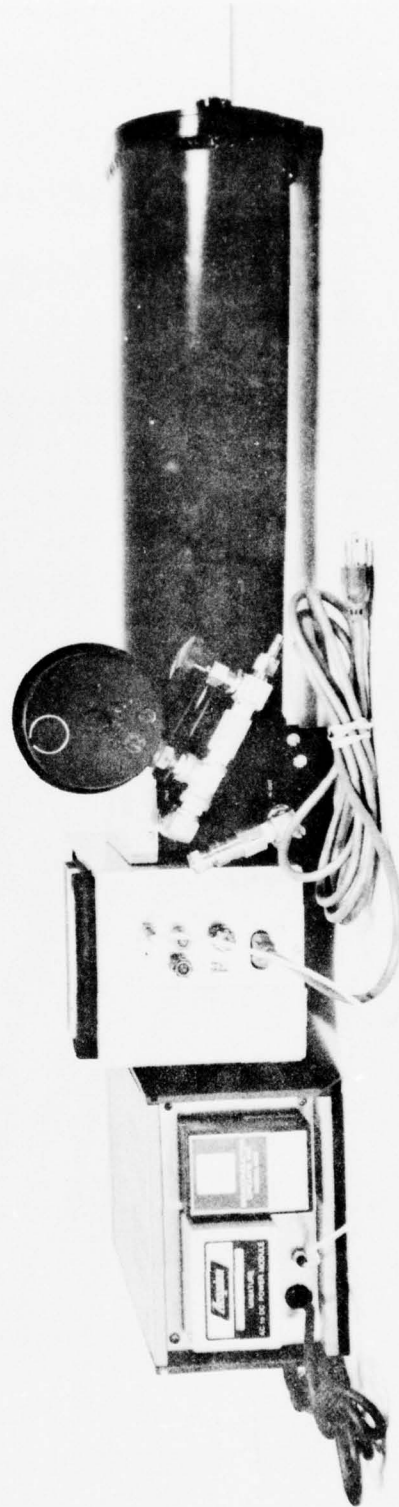

FIGURE 8. ANALYZER AND SSRD INTERCONNECT
1. Connect the one required cable between the Wilks Analyzer and the SSRD (see Figure 8).